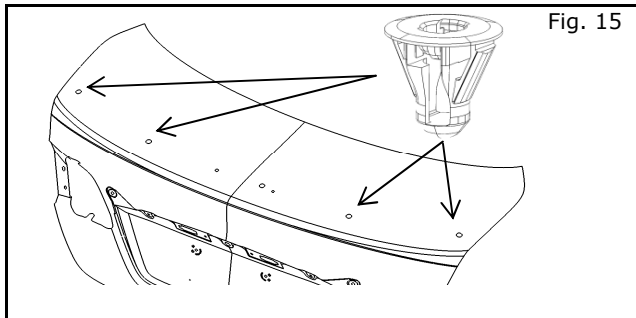

Fig. 15
- d) Install the 4 plastic clips into the trunk lid in the 14.5 mm holes 4 places. (Fig 15)